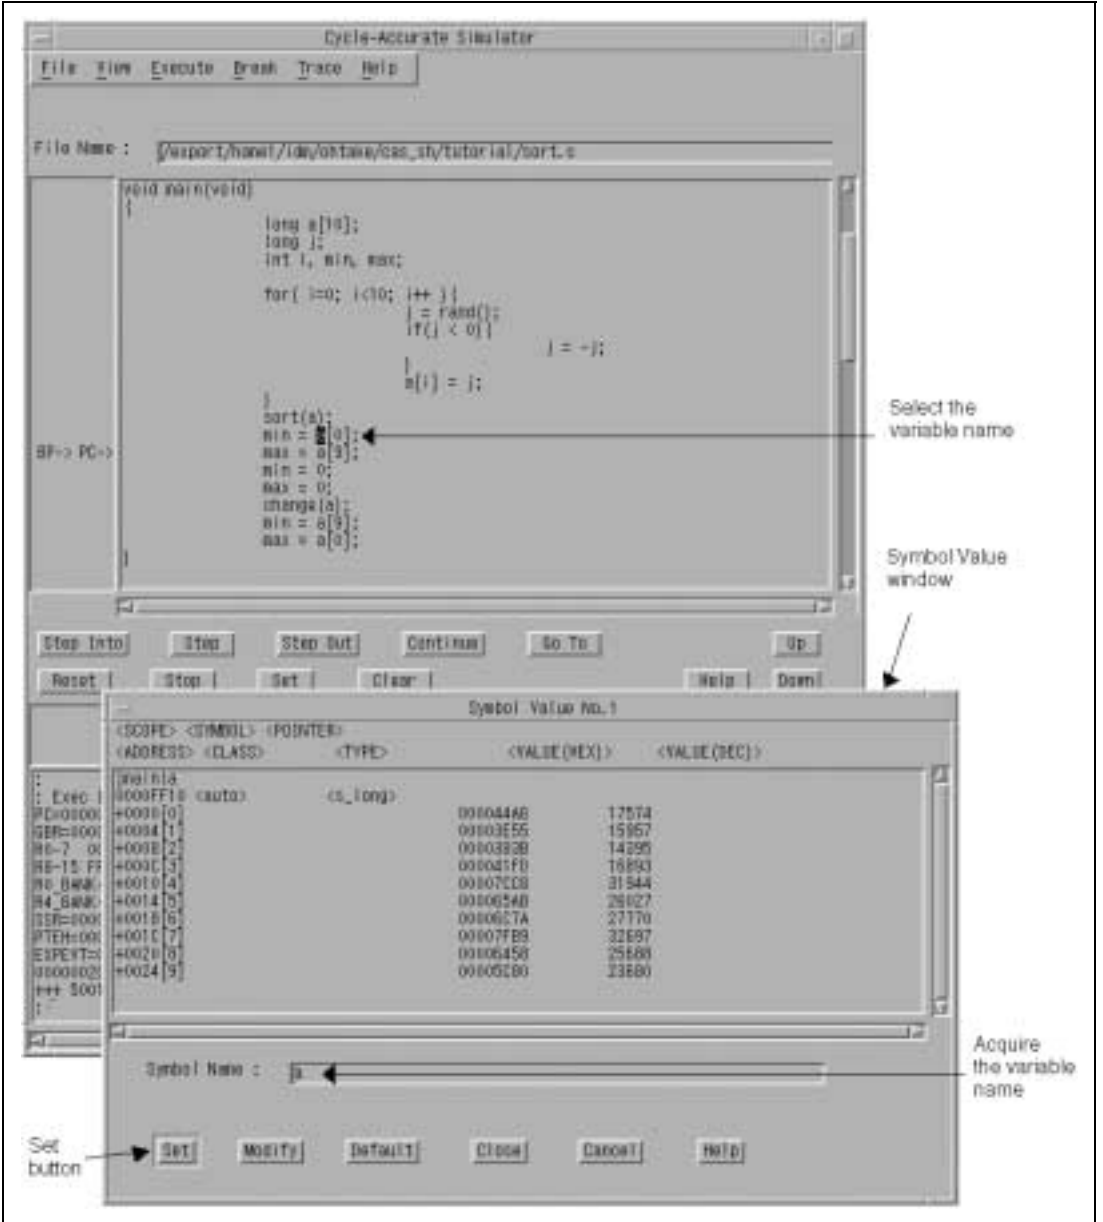

Figure 3.9 Example of Variable Content Display
- (a) Select the variable name in the source area. (In figure 3.9, variable a is selected.)